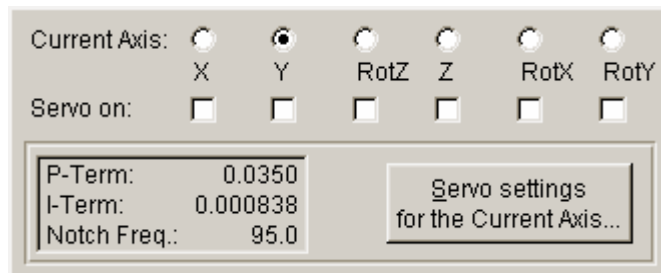

Fig. 3: Axis-select pane of the *NanoCapture™* window
1. When *NanoCapture™* is started for the first time, the *Device Interface* dialog will be displayed (Fig. 3). (Thereafter, the software can initialize the connection automatically with the last-used settings. These settings can be changed using the *Config* → *Device Interface* menu sequence.)
1. First open the *Device Interface* window (see Fig. 3) with the *Config* → *Device Interface* menu sequence to get the *Command Entry* pane.